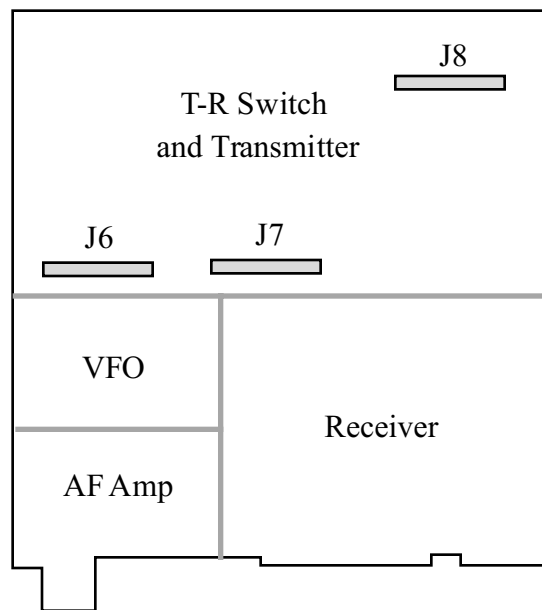

Figure 6-1
□ Locate the RF board and orient it as shown in Figure 6-1. This illustration shows the major areas of the board. Receiver and VFO circuits occupy the front half; transmitter and T-R switch stages use the rear half. The Filter board plugs into J6, J7, and J8.